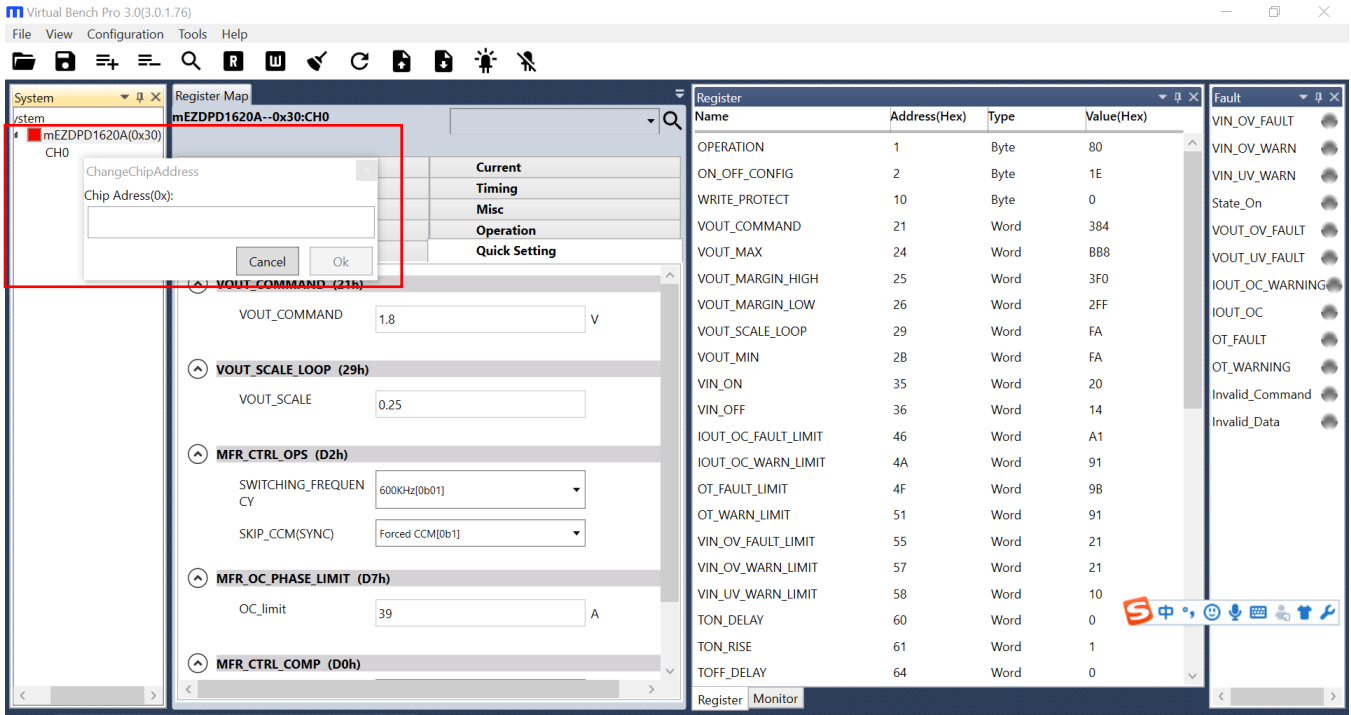

Figure 14: Change the Chip Address and the Indicator Turns Green to Show Successful Connection
2. Right-click the “mEZDPD1620A” on the left panel. Click “Change Chip Address” and enter the value of “slave (0x)” (see Figure 14). The module will be added manually.